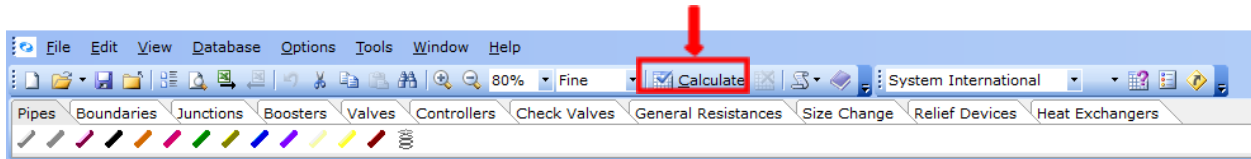

Figure 36: Calculate Button.
38. Calculate the model using the *Calculate* button located at the top of the flowsheet (Figure 36):